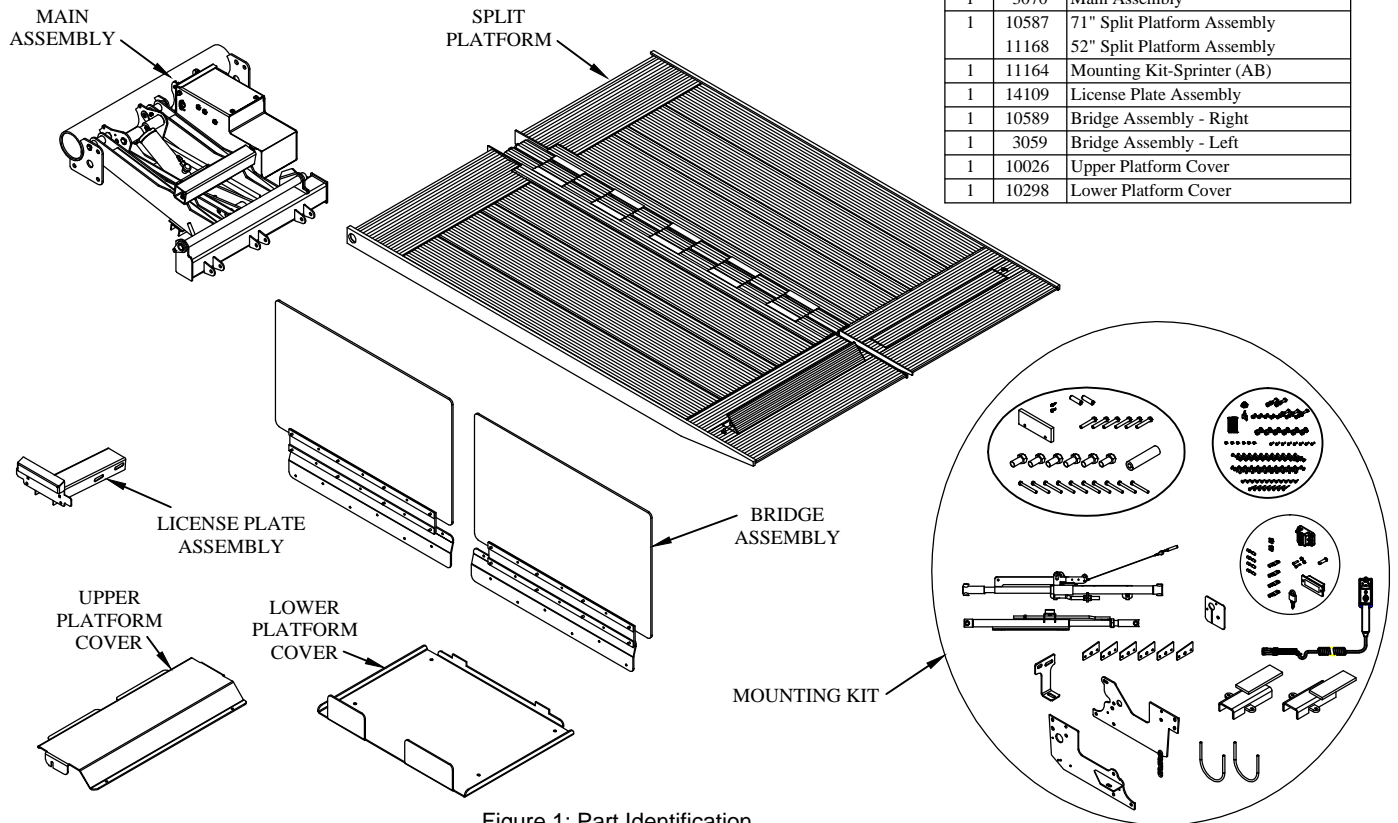

Figure 1: Part Identification.
2. **Verify** mounting kit, liftgate, and other components (Figure 1 and Table 1).